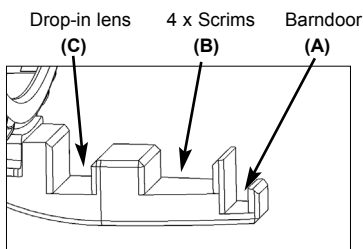
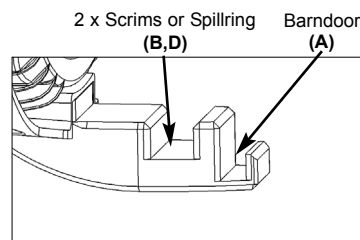

Abb. 4 / figure 4
Abb. 5 / figure 5
- AS 18 (Abb. 4):**
- Hinterer Einschub: Drop-In Linse (C)
- Mittlerer Einschub: 4x Scrim (B)
- Vorderer Einschub: Flügelort (A)
- M 18 (Abb. 5):**
- AS 18 (figure 4):**
- back insertion: Drop-in lens (C)
- middle insertion: 4x scrim (B)
- front insertion: barndoor (A)
- M 18 (figure 5):**